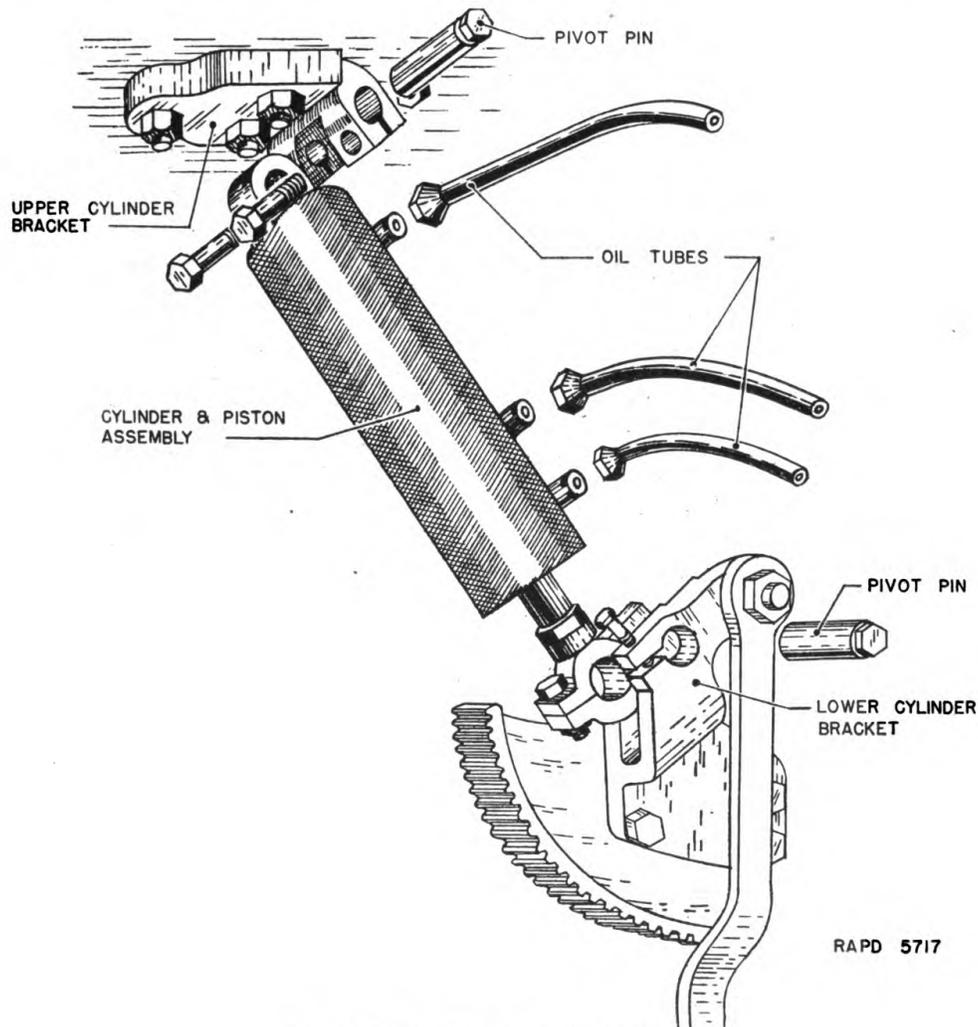
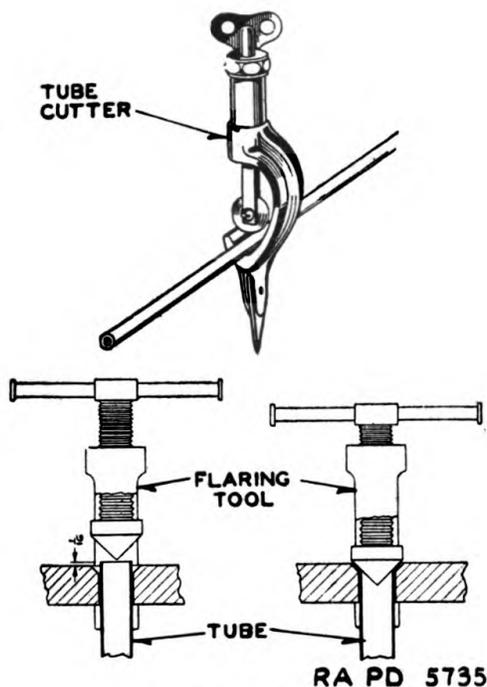

FIGURE 79.—Piston and cylinder.
FIGURE 81.—Tube flaring.
- b. Piston and cylinder.**—(1) Throw the master toggle switch to the "off" position, disconnecting the power supply to the stabilizer.
- (2) Disconnect and remove the oil lines from the cylinder assembly and plug with flareplugs.
- (3) Loosen the clamping bolts (fig. 79) and remove the cylinder pivot pin at both ends of the assembly.
- (4) Remove the piston and cylinder assembly.
- (5) Replace in the reverse order of removal.
- (6) Check to see that the piston and cylinder assembly is functioning freely without binding.
c. Repair and replacement of defective oil lines.—(1) Disconnect the defective oil line and catch any oil drainage from the affected part of the system in a container.
- (2) Reflare the tubing using a standard flaring tool (fig. 81). The tubing should be cut as close as possible to the flare with a tubing cutter and *not* with a hacksaw.